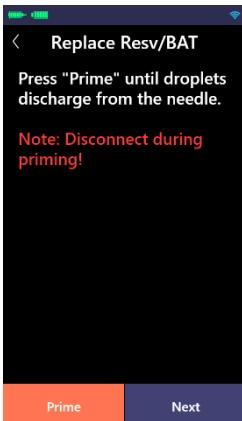

Figure 10.3
(3) Prime. Press or click "Prime" until droplets discharge from the needle and then click "Next" (as shown in Figure 10.3).